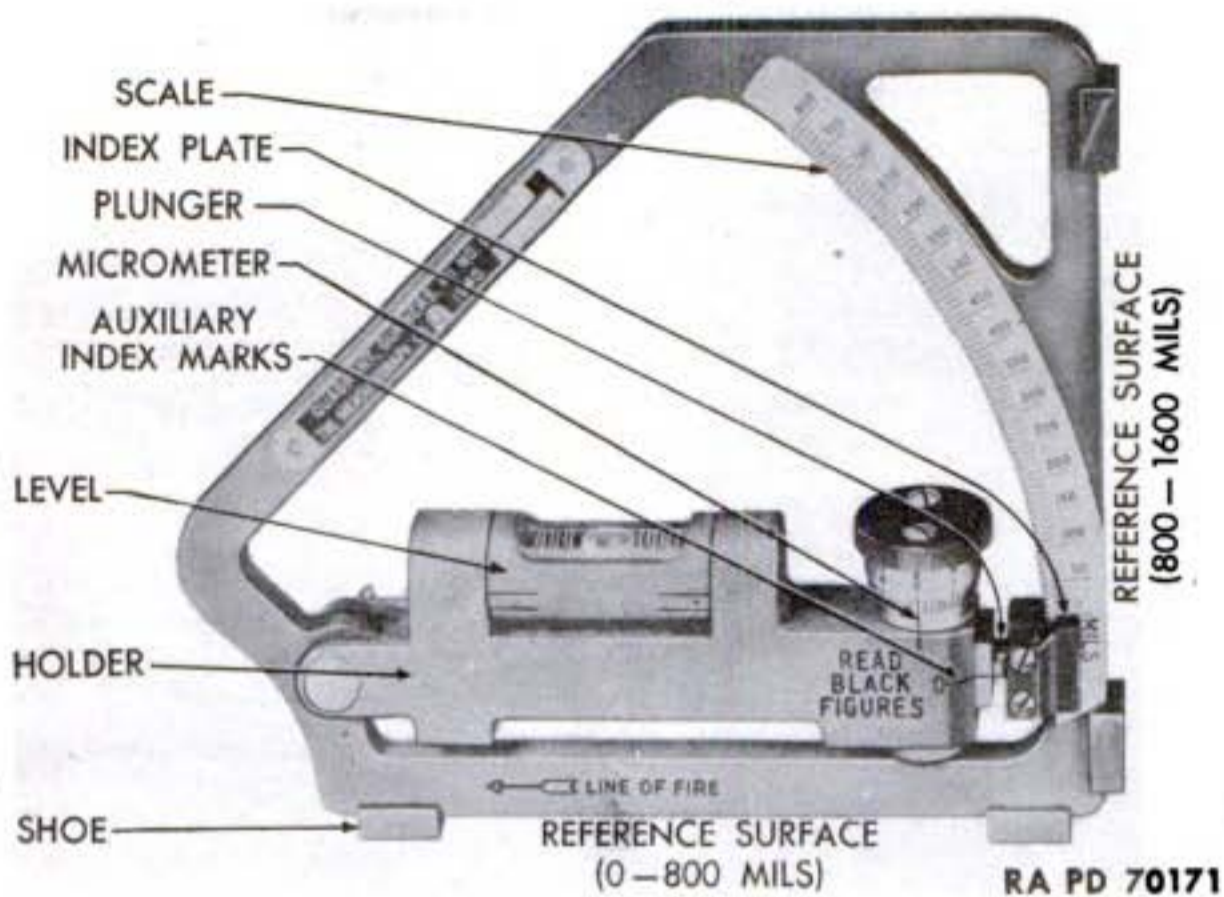

Figure 192—Gunner's Quadrant M1
(1) To measure elevation of the gun, place the proper reference surface (fig. 192) of the gunner's quadrant on the leveling pads of the gun, parallel to the bore, with the associated arrow pointing in the direction of fire. Set the 0 of the micrometer opposite its index with the auxiliary index marks matched.
(2) Disengage the plunger from the notches in the frame, lift the holder and lower it slowly until the bubble is seen to pass through its central position. Allow the plunger to engage the notches, and rotate the micrometer knob until the bubble is centered with respect to the graduations on the level vial. Face the side of the quadrant which bears the arrow in use, and read the elevation indicated on the elevation scale and micrometer; read red or black figures according to the instructions engraved below the micrometer. Remove the quadrant from the gun before firing.